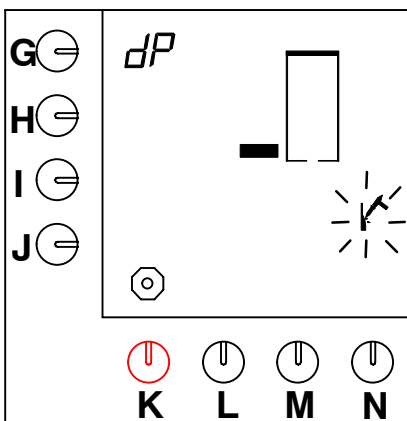

Fig. 24 First level descaling programme hot water system
- The first level block appears on the display and the hammer symbol flashes (fig. 24) .